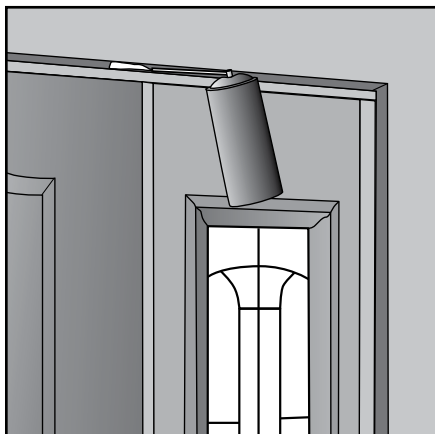

Fig. 32
4. On the interior apply low pressure foam between the outside of jamb and the stud to seal any gaps (**Fig. 32**).